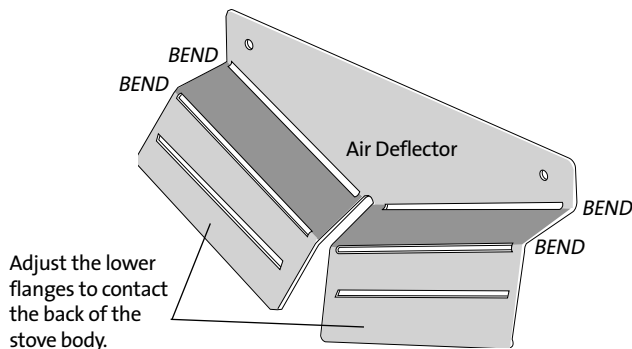

Figure 21. Air Deflector orientation.
2. **Attach the Air Deflector to Rear Shroud: See figs. 21 and 23 /#3.**
Use pliers to bend back the long, vertical flange to allow the bracket to fit flush against the back of the stove. (Fig. 21 and 23/#2) to the two center studs on the back of the stove, oriented as shown. Secure with two M6 flange nuts.
Attach the control box to either side of the rear shroud using a 1/4" socket driver and one #8 x 12 sheet metal screw as shown in fig. 21.